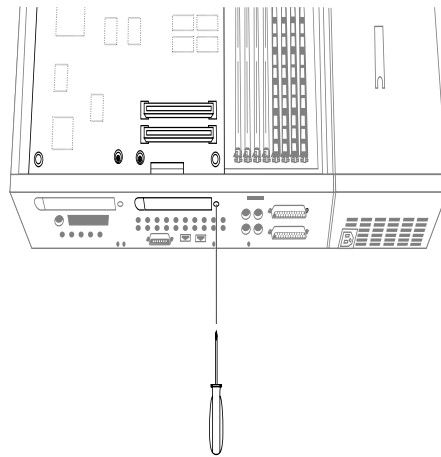

Figure 4-2 Removing the Screw from the GIO I/O Port Face Plate
6. If you are installing a single-width board, use a phillips screwdriver to remove the screw from the face plate covering the GIO option port on side where you are installing the board. (See Figure 4-2.)